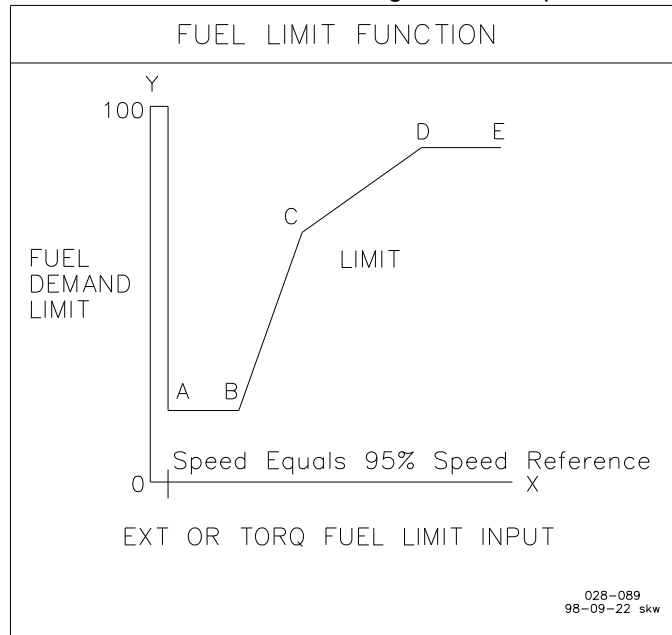

Figure 4-8. Torque Limit Curve
A five-point curve is constructed for rpm versus Fuel Demand (refer to Figure 4-8). The 'X' values are the Breakpoints, and the 'Y' values are the Fuel Limit at the Breakpoints. All values between the designated breakpoints are interpolated.
2. **TORQUE LMT BRKPT X** is the engine speed (rpm) that designates that particular breakpoint (x-axis input in Figure 4-8).
3. **FUEL LIMIT @ BRKPT X** is the percent fuel demand allowed when the engine speed is at that respective Breakpoint (y-axis output in Figure 4-8).
A five-point curve is constructed using the engine manufacturers recommended settings for EXT FUEL LMT versus Fuel Demand. Refer to Figure 4-8. The 'X' values are the Breakpoints and the 'Y' values are the Fuel Limit at the Breakpoints. All values between the designated breakpoints are interpolated.
2. **EXT LIMIT BRKPNT X** is the External Fuel Limiter value that designates that particular breakpoint (x-axis input in Figure 4-8).
3. **FUEL LIMIT @ BRKPNT X** is the percent fuel demand allowed when the External Fuel Limiter input is at that respective Breakpoint (y-axis output in Figure 4-8).